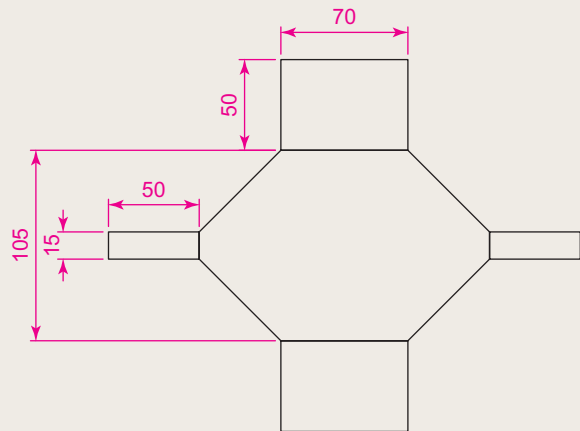

Fig. 3.52 Exercise 8
8. Fig. 3.52 was constructed using only the **Rectangle** tool. Make an exact copy of the drawing using only the **Rectangle** tool.